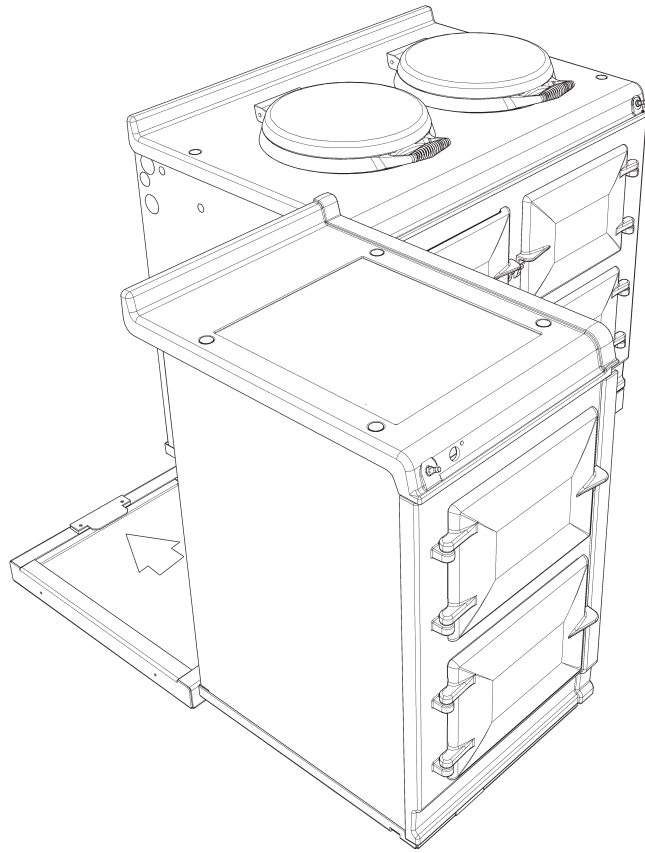

Fig. 13
6. Slide hotcupboard onto plinth until rear tongue bracket engages fully into rear of base slot, (See Fig. 13). Ensure the appliance is aligned squarely with the plinth then proceed to engage the front tongue bracket into the slot on the under side of the base plate. Once satisfied that the front tongue bracket is engaged fully lock it into place by tightening the two M6 screws fully. Ensure that the electrical cable does not come into contact with oven vent pipe from the AGA DC3.